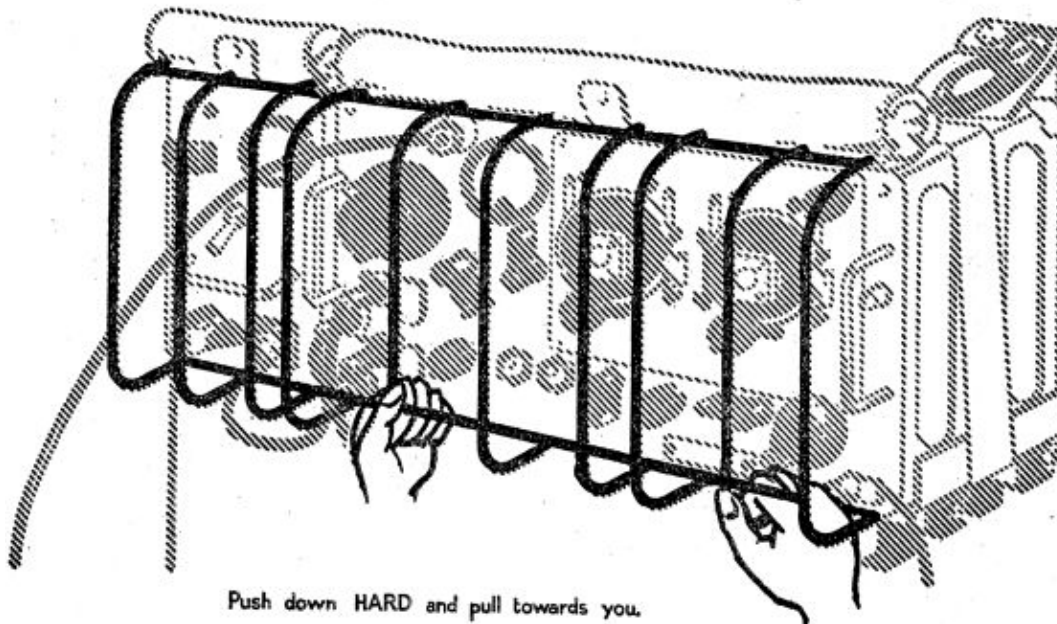

Fig. 14
- (7) Taking off the grille (*see Fig. 14.*)